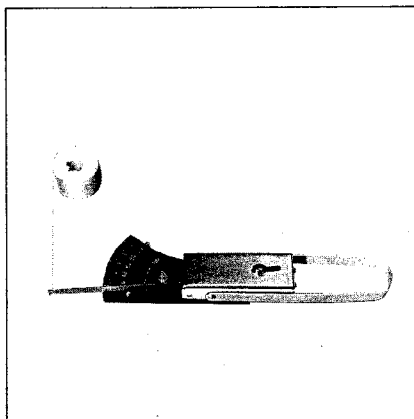

Fig. 1-1 Spring Scale & Cassette Reel Adapter
* The tools above (1 – 3) are constructed as shown in Fig. 1-1.